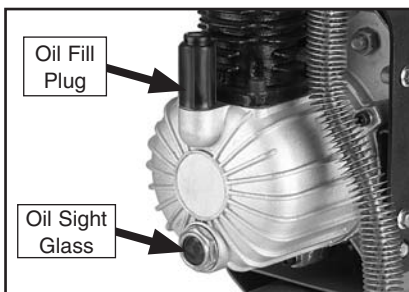

Figure 12. Oil sight glass.
3. Use a box end wrench or a socket wrench to remove the oil sight glass shown in **Figure 12**.
5. Replace the oil sight glass and remove the fill plug shown in **Figure 12**.